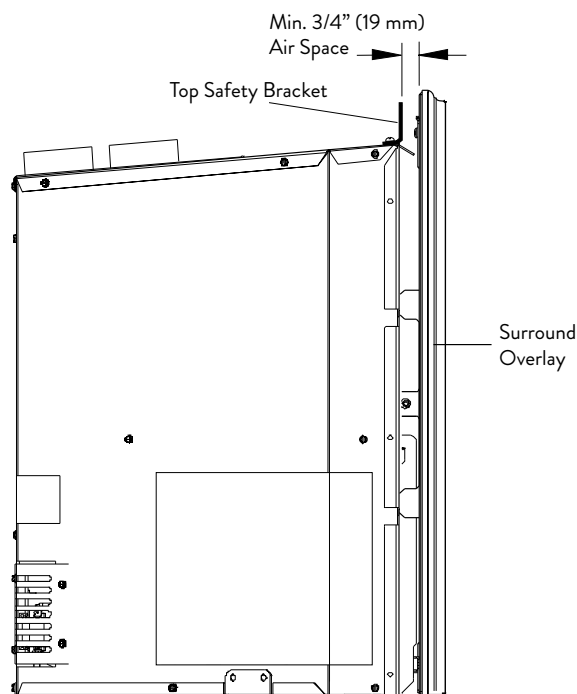

Figure 7.41.
**WARNING!** See Fig. 7.41 below.